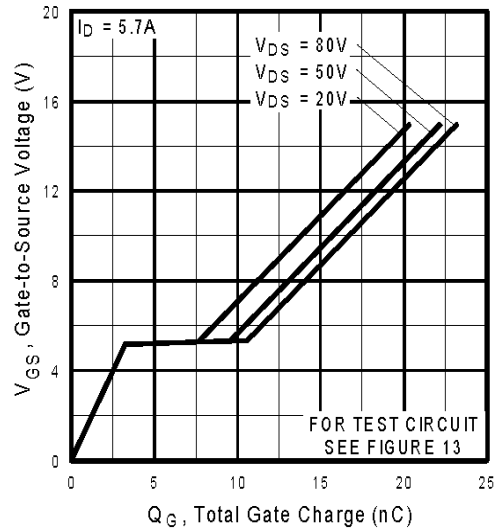

Fig 6. Typical Gate Charge Vs. Gate-to-Source Voltage
| Q _{gd} | Gate-to-Drain ("Miller") Charge | — | — | 11 | | V _{GS} = 10V, See Fig. 6 and 13 ④⑥ |